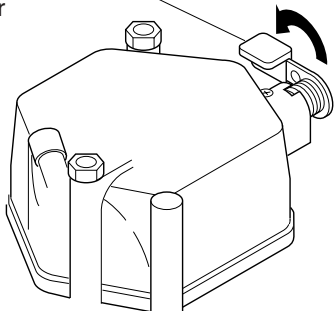

Figure 17 - Decompression Lever
- I. Push decompression lever all the way down (see Figure 17, page 11). Decompression lever will stay in this position until you turn starting key.
- II. Push decompression lever all the way down (see Figure 17). Decompression lever will stay in this position until you pull starter rope.